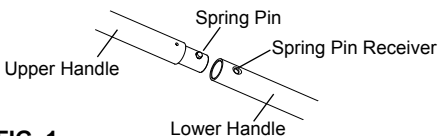

FIG. 1
- Locate the spring pin on bottom end of upper handle and the spring pin receiver on the upper end of lower handle. (see Fig. 1).